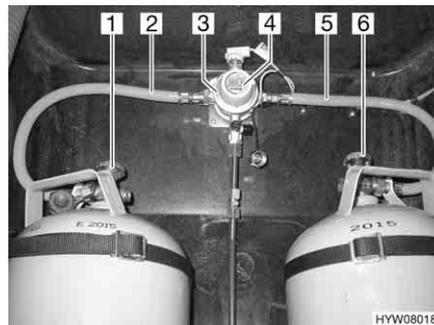
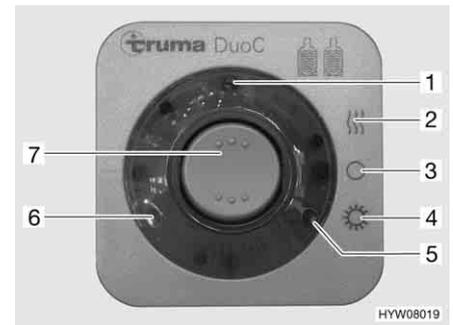

Fig. 102 DuoControl switching facility
Fig. 103 Operating unit
The DuoControl switching facility consists of a reversing valve (Fig. 102,3) and an operating unit (Fig. 103). The reversing valve is installed between the gas tubes (Fig. 102,2 and 5). The knob (Fig. 102,4) on the reversing valve is used to select which of the gas bottles is to be used as a primary bottle and which is to be used as a reserve bottle.
Only the electrical functions can be switched at the operating unit (Fig. 103). The regulator taps on the gas bottles (Fig. 102,1 and 6) must be opened manually.
The reversing valve provides a constant gas pressure, regardless of which gas bottle is being drawn upon. The two indicator lamps on the operating unit indicate the level of the primary bottle. When the green indicator lamp (Fig. 103,6) illuminates, the primary bottle is full. When the red indicator lamp (Fig. 103,5) illuminates, the primary bottle is empty. In this case, the reserve bottle is used for the gas supply.
- Open the regulator taps on the gas bottles (Fig. 102,1 and 6).
- Use the knob (Fig. 102,4) on the reversing valve (Fig. 102,3) to select the gas bottle which is to be the primary source of gas (primary bottle). Always turn the knob as far as it will go.
- Switch on the DuoControl switching facility at the operating unit (Fig. 103). To do so, set the rocker switch (Fig. 103,7) to winter operation "On and heating" (Fig. 103,2) or to summer operation "On" (Fig. 103,4). The reversing valve is now deaerated. The yellow indicator lamp (Fig. 103,1) illuminates if the winter operation has been selected and the regulator defroster is activated.
- Set the rocker switch (Fig. 103,7) to "O" (Fig. 103,3). The yellow indicator lamp (Fig. 103,1) goes out.
- Close the regulator taps on the gas bottles (Fig. 102,1 and 6).
The indicator lamps on the operating unit (Fig. 103,5 and 6) indicate in the vehicle interior whether the primary bottle is ready for operation.
If the green indicator lamp (Fig. 103,6) stops illuminating during operation and the red indicator lamp (Fig. 103,5) illuminates, the gas bottle selected as primary bottle is empty and needs to be changed. The reserve bottle continues supplying the gas appliances with gas.